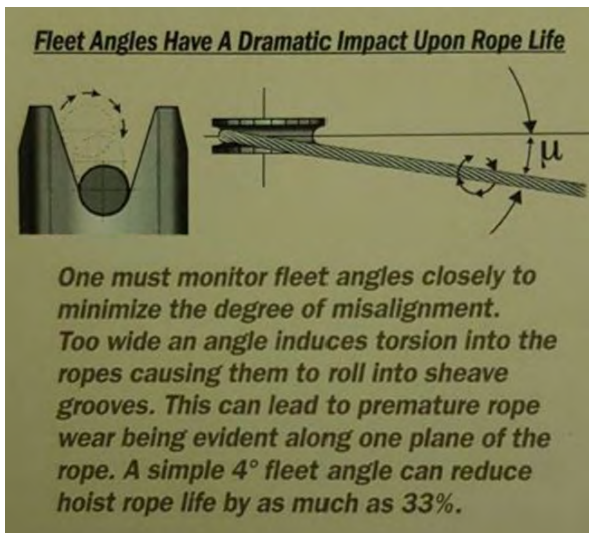

Figure 2: From the Brugg Lifting manual
- ◆ Misalignment will damage the ropes and sheaves. According to Brugg Lifting, a fleet angle as small as 4° can reduce rope life by 33%. Extra caution should be taken to minimize the fleet angle (Figure 2). This can be accomplished by making sure that the drive and counterweight sheaves are aligned; making sure that, in 1:1 roping, the center rope on the drive sheave is aligned with the center of the car and counterweight; and by making sure that, in 2:1 roping, the drive and deflector sheaves are aligned with the pulley (sheave) of the car and counterweight.